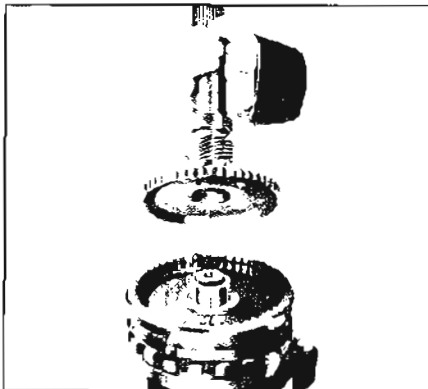

Figure 5-562
8. Remove output shaft to rear carrier snap ring. See Figure 5-562.